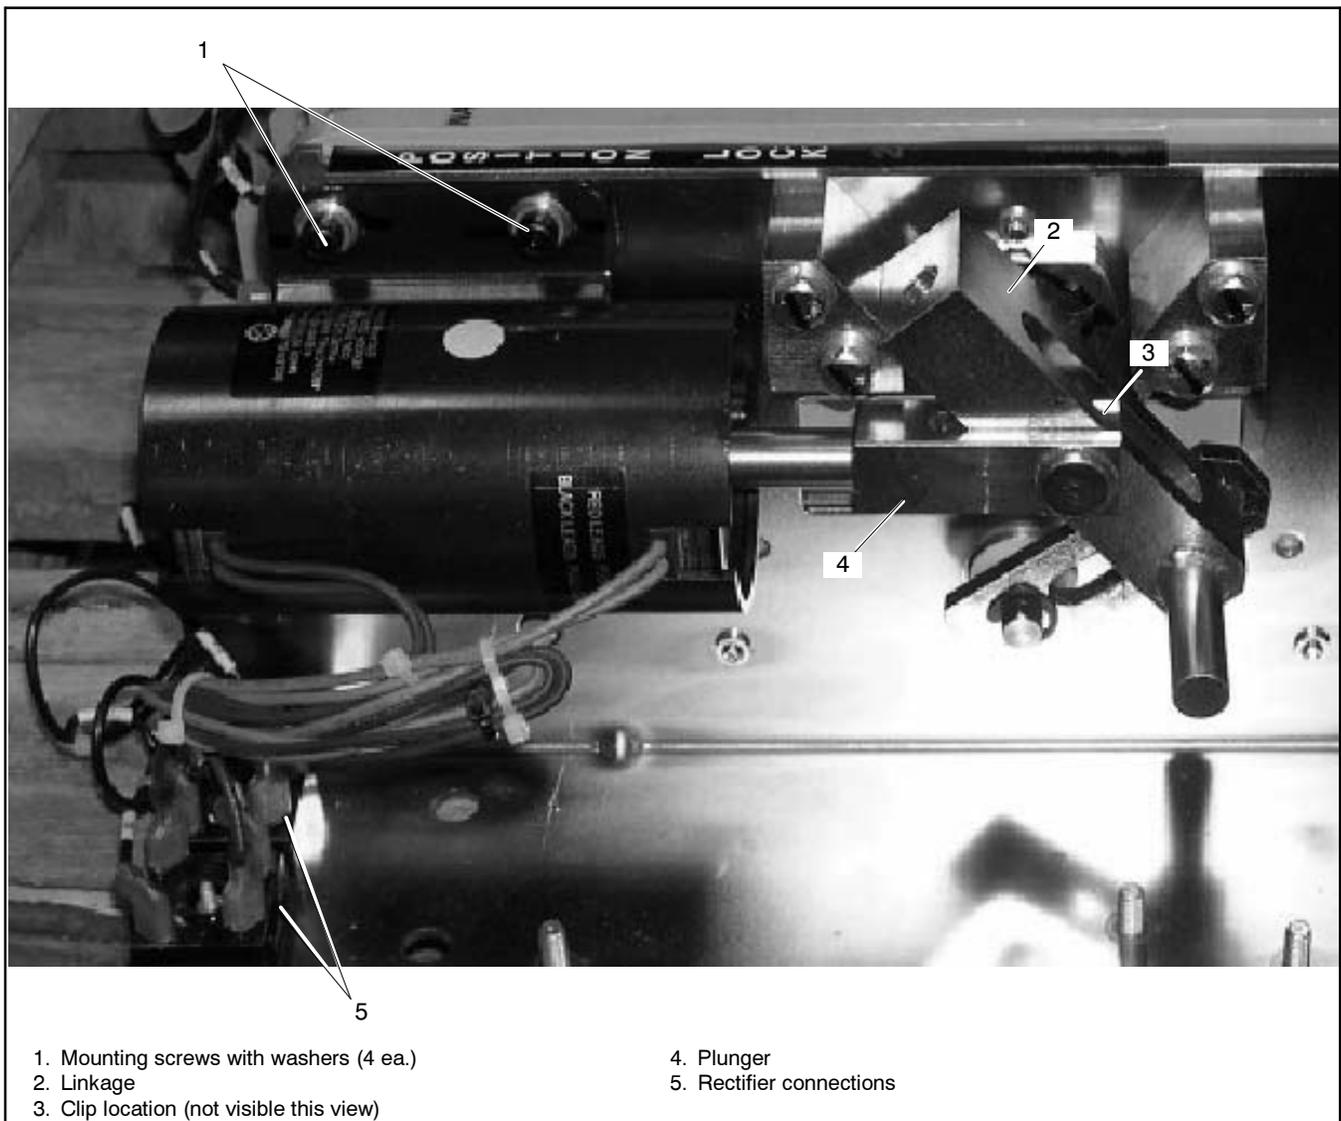

Figure 5-22 Solenoid Assembly (shown on the bench)
10. Note the rectifier connections and disconnect the AC leads. See Figure 5-22.
14. Hold the solenoid coil firmly and remove the four screws and washers. See Figure 5-22.
18. Place the new solenoid assembly into position, aligning the linkage pins with the mechanism slots. See Figure 5-22.